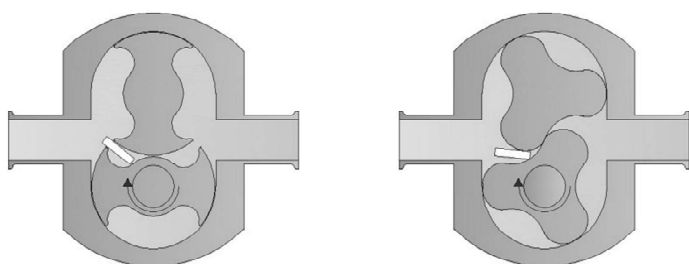

Figure 19 - Tighten the rotor bolt (bottom rotor)
- Lock the rotors using a soft spacer (Figure 19) - a plastic block (180) is provided with the pump for this purpose.